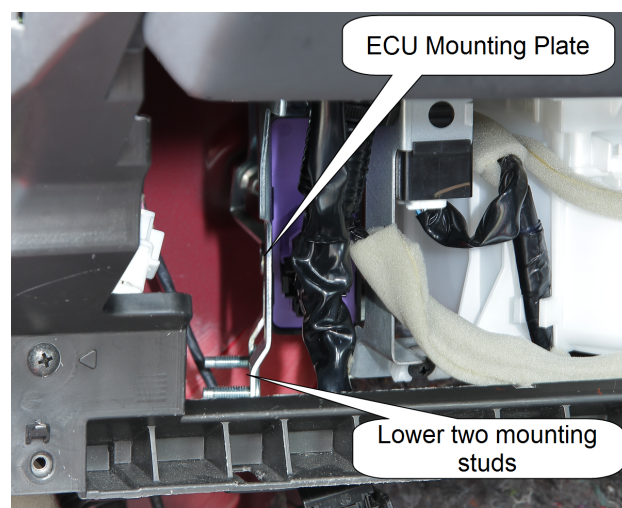

Figure 2.
- (d) Remove stock ECU from the mounting plate, Figure 2.